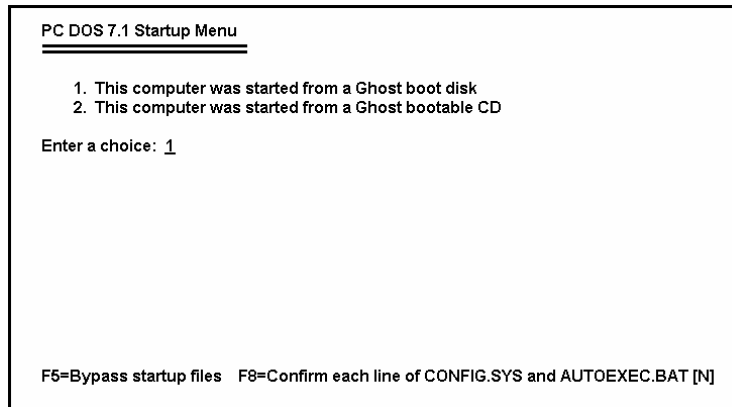

Figure 1-175. Startup Menu
5. Power ON the Drive Duplicator and wait for the system to load. The “PC DOS Startup Menu” window is displayed (Figure 1-175).